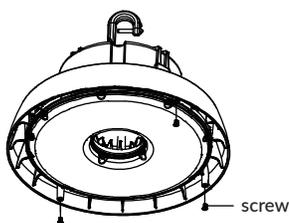
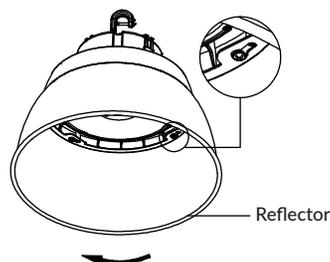

Figure 1
Figure 2
- Insert provided screws to the designated locations on the fixture housing. Install screws half way, leaving enough space (1/8" – 3mm) between the housing and the end of the screws to be able to insert through the keyholes of the reflector/diffuser (Figure 1).
- Align the reflector/diffuser with the housing and insert screws through the reflector/diffuser keyholes. Rotate clockwise to lock the reflector/diffuser (Figure 2).
- Screw the hook to the driver housing (Figure 1). Tighten the provided screw to secure the hook (Figure 2).
- Locate (2) Bracket B and attach to the designated locations on the fixture housing with provided screws (Figure 1).
- Locate (1) Bracket A and attach to secured Bracket B, on both sides, with nylon and steel gaskets, screws and nuts (Figure 2).